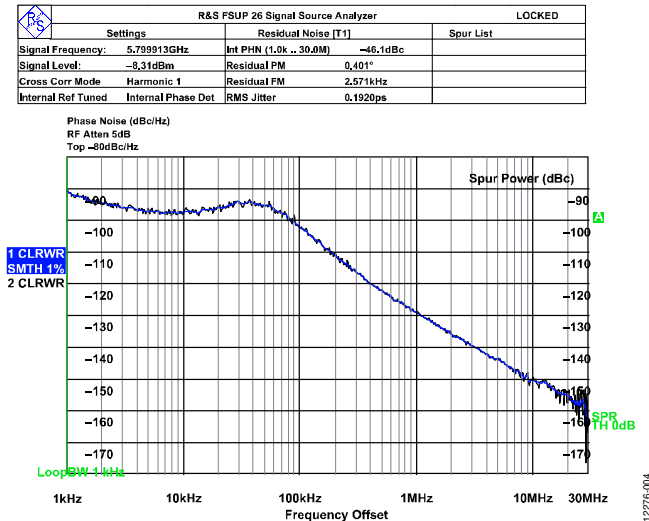

Figure 4. Fractional-N Phase Noise and Spur Performance, VCO_I/O, VCO_{OUT} = 5800 MHz
11. Figure 4 shows a phase noise plot of the SMA VCO_I/O, VCO_{OUT} = 5800 MHz.